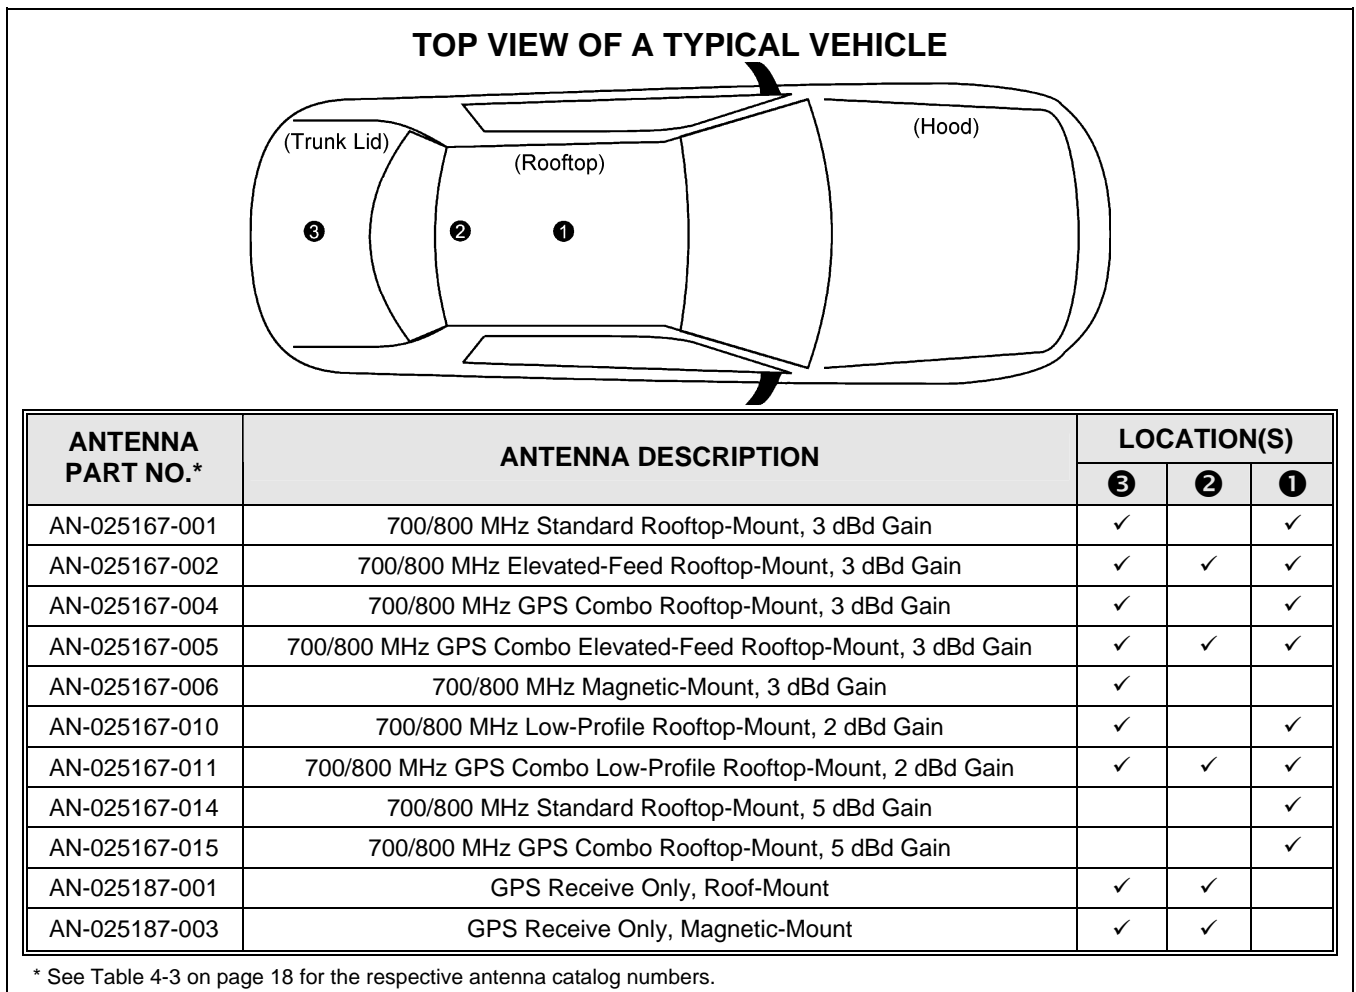

Figure 6-1: Recommended Antenna Mounting Locations with Antenna Part Numbers
At this time, review all information presented in the REGULATORY AND SAFETY INFORMATION section of this manual (see page 6). A transmitting antenna must be installed in accordance with the guidelines presented in the REGULATORY AND SAFETY INFORMATION section. Use Table 1-1 on page 8 and Figure 6-1 below as a guide for determining the best possible mounting configuration/location in order to reduce human exposure to radio frequency (RF) electromagnetic energy during transmit mode.
Antennas must be mounted in one of three possible locations on the vehicle as described in the following subsections. Figure 6-1 shows the recommended locations and antenna part numbers for each location. Also, see Table 4-3 for additional information. Always follow the antenna manufacturer's instructions when mounting an antenna.
The center of the vehicle's roof is the best location for a rooftop-mount antenna (location ❶ in Figure 6-1). For optimal performance, the mounting area under the antenna must be a flat with a minimum radius of six (6) inches of metal ground plane. It must be located directly in the center of the roof to minimize human exposure to RF electromagnetic energy. Other obstructions such as a light bar or another antenna may prevent the antenna from being mounted in the direct center of the roof. In this case, the antenna should be mounted a minimum of one foot away from and behind the obstruction but in the middle of the roof with respect to the left and right sides of the vehicle (location ❷ in Figure 6-1).
Certain vehicles do not allow for the antenna to be placed in the center or center-rear of the roof. In this case, the next best location for the antenna is in the direct center of the trunk lid (location ❸ in Figure 6-1). In this case, an elevated-feed-point antenna is recommended. Although this type of antenna does not require a metal ground plane, it must be located directly in the center of the trunk lid to minimize human exposure to RF electromagnetic energy.
Table 4-3 (page 18) and Figure 6-1 (page 25) list the mobile radio antennas available for use with the radio. As presented in the previous section, various mounting locations exist. Optimal performance is achieved via a rooftop antenna mounted in the direct center of the motor vehicle's roof. The following mobile antenna installation procedure is recommended:
A combination ("combo") antenna kit includes a GPS antenna built into the base of the mobile antenna. Refer to Table 4-3 (page 18) and/or Figure 6-1 (page 25) for available combo antennas.